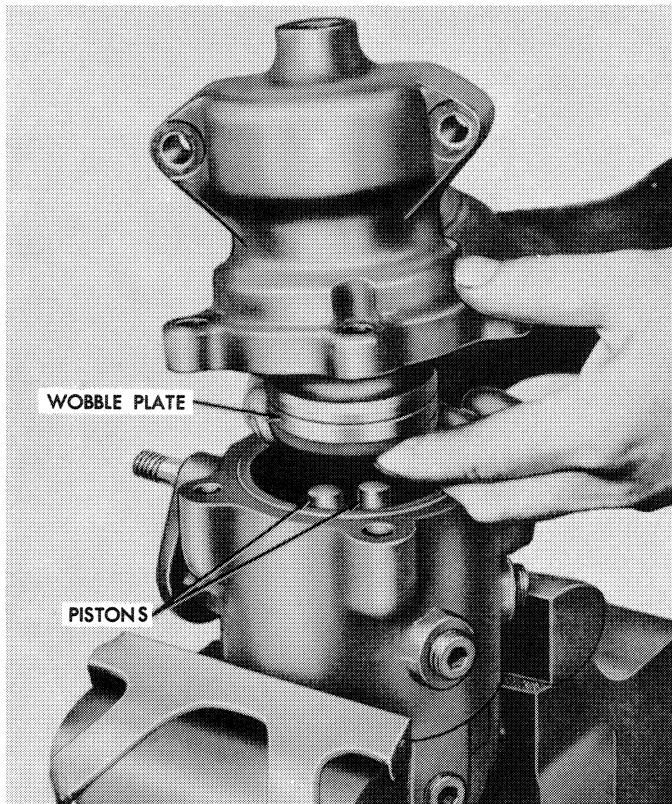

Figure 35—Installing Housing on Body
11. Invert the pump and install the six piston return springs in the body. Coat the pistons with oil, then install them in the bores with the crowned ends facing up, Figure 35.
12. Position a new "O" ring in the pump body groove. Place the bearing and wobble plate on the shaft. Install the housing and shaft assembly on the body, while holding the wobble plate as shown in Figure 35.